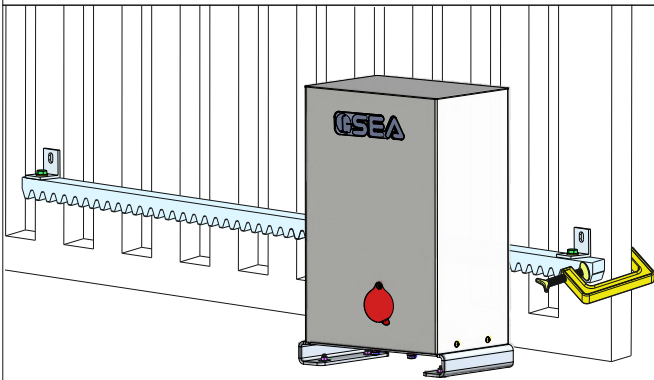

Fig. 17
- 6.4. Make the holes on the gate structure in correspondence with the «B» holes on the metal supports, then fix the gear rack to the gate - Fig. 17 - using screws (**NOT SUPPLIED**)